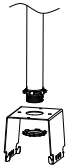

Figure 2
- Step1.Mount the bracket on 3/4"NPT (Figure 2)